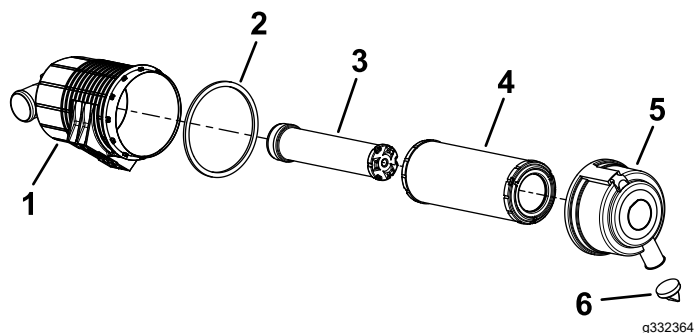

Figure 38
5. Service the air-cleaner filter and safety element when alerted (Figure 38).